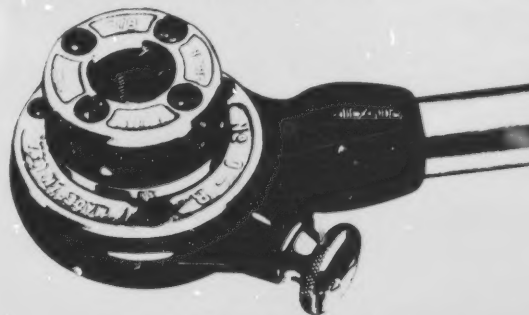

Figure 1-18. Drop-Head Threader
c) A few of the modern types of hand pipe threaders (stocks and dies) are shown in Figures 1-18 to 1-20.
A drop-head threader (Figure 1-18) is used for cutting threads on NPS $\frac{1}{4}$ to NPS 2 pipe, or similar threaders for NPS $\frac{1}{4}$ to NPS 1 pipe. Die heads must be changed for different pipe sizes.